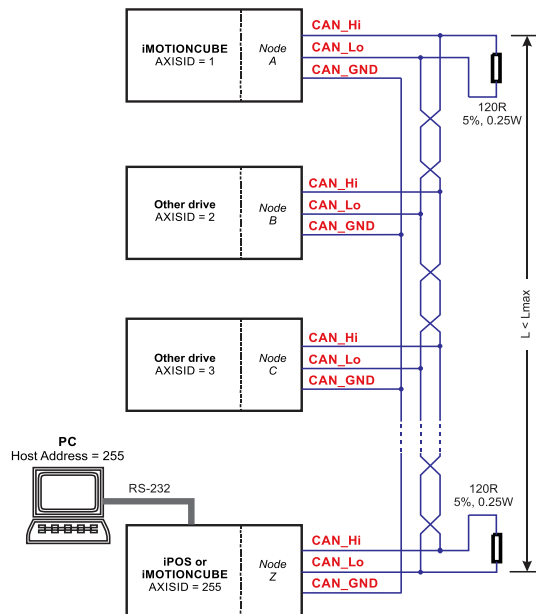

Figure 3.33. Multiple-Axis CAN network
- The CAN network requires a 120-Ohm terminator. This is not included on the board. Figure 3.33 shows how to connect it on your network